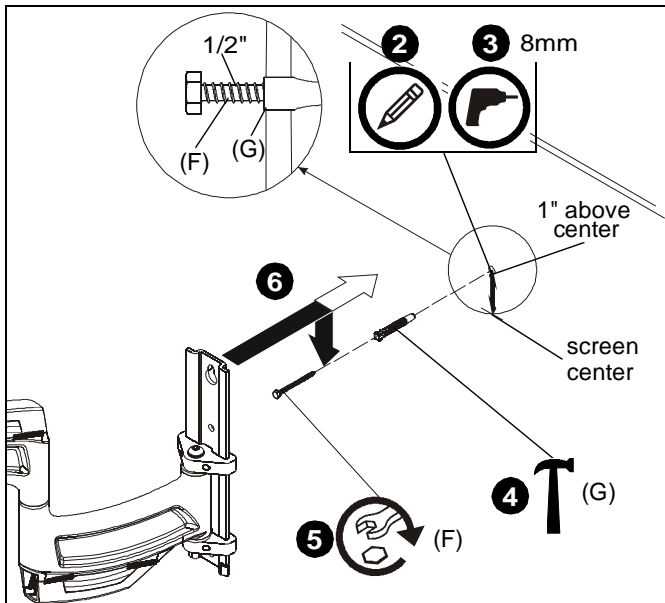

Figure 3
2. Measure 1" above desired center line and mark a hole at desired mounting location. (See Figure 3)
3. Drill one 8mm hole at location marked in Step 2. (See Figure 3)
4. Install one concrete anchor (G) into drilled hole. (See Figure 3)
5. Install one 1/4 x 2 1/2" lag bolt (F) into concrete anchor (G), leaving bolt hanging out 1/2" from the wall. (See Figure 3)
6. Hang main assembly (J) onto lag bolt (F) by latching key-shaped hole over top of bolt. (See Figure 3)